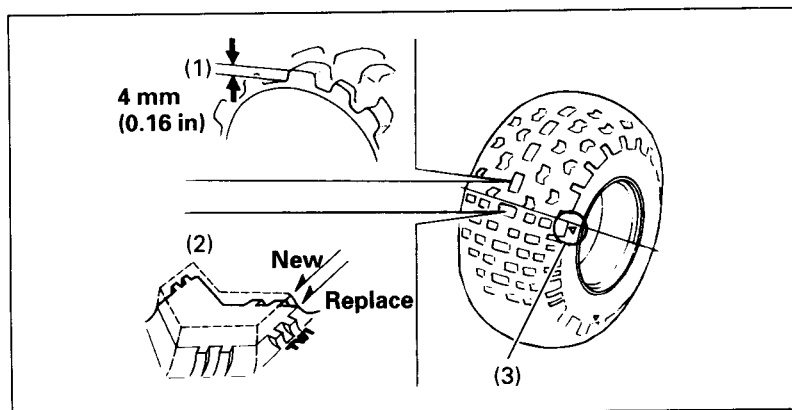

Fig. 4-33
To check the condition of a tyre tread, measure the groove depth (1) (Fig. 4-33) in the center of the tyre, or check the wear indicator (2). The minimum tread depth is 4 mm (0.16 in). When the tread depth is less than recommended, the tyre should be replaced.